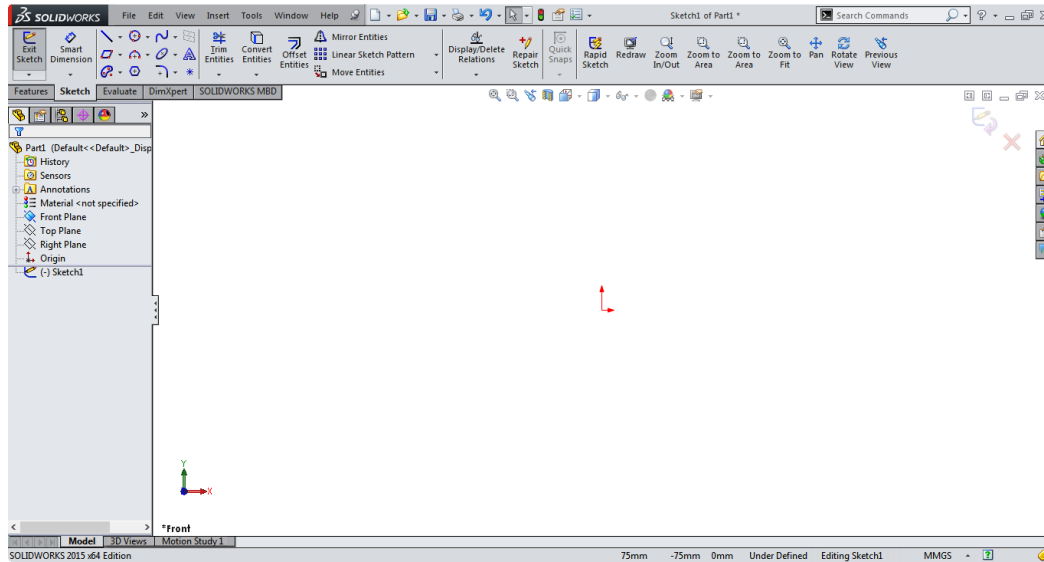

Figure 2-59 Screen display in the sketching environment
5. Select the **Front Plane** from the drawing area; the sketching environment is invoked and the plane gets oriented normal to the view. You will notice that red colored arrows are displayed at the center of the screen, indicating that you are in the sketching environment. Also, the confirmation corner with the **Exit Sketch** and **Cancel** options is displayed on the upper right corner in the graphics area. The screen display in the sketching environment of SOLIDWORKS 2015 is shown in Figure 2-59.